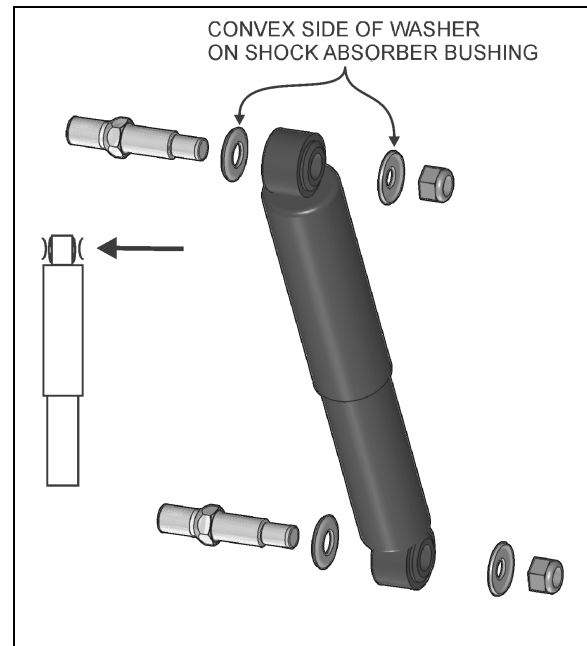

FIGURE 3: SHOCK ABSORBER
pins, taking care to identify the inner and outer washers to ease reinstallation. Refer to figure 3 for details.
3. Place the inner washers (with washer convex side facing the shock absorber rubber bushing) on each shock absorber pin (Figure 3).